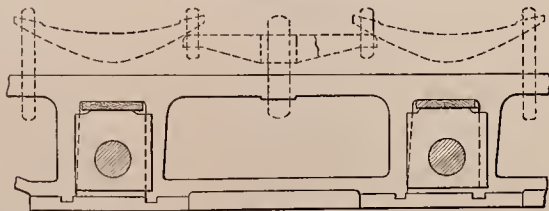

Fig. 202. Broken Springs.
A. See page 342; also figures 202 and 203.
A. See page 343; also figure 202.